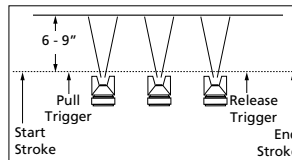

Figure 13
2. "Trigger" the gun properly. Start the gun moving at the beginning of the stroke BEFORE SQUEEZING THE TRIGGER and release the trigger BEFORE STOPPING GUN MOVEMENT at the end of the stroke. This procedure will "feather" (blend) each stroke with the next without showing overlap or unevenness (See Figure 13).